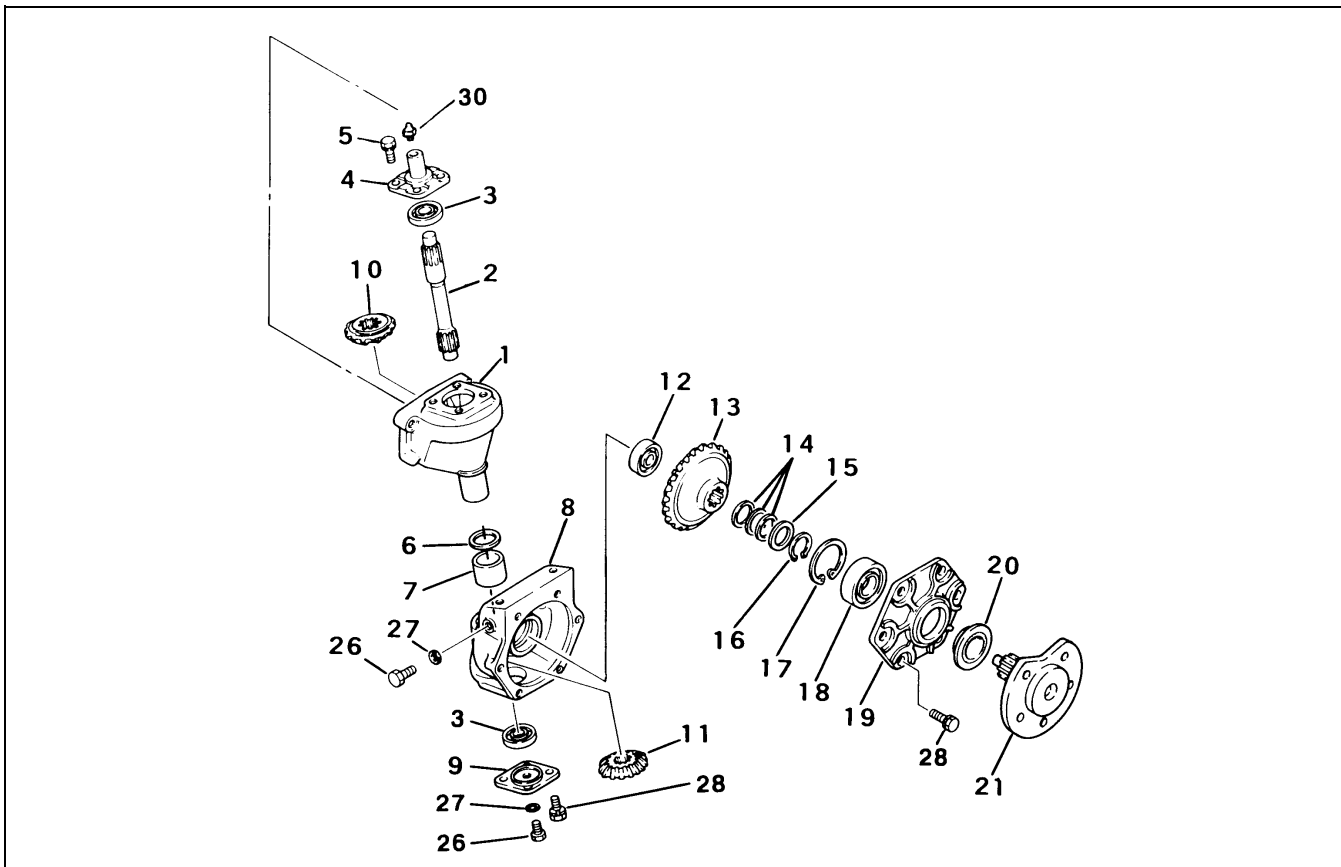

Figure 24
1. Remove bearing holder (Fig. 24, Item 19) from final drive case. The holder will come out together with the wheel shaft (Item 21).